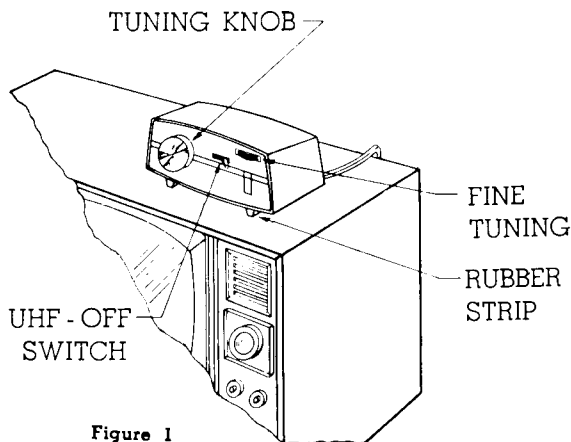

Figure 1
1. Slide the two rubber extrusions over the feet of the cabinet starting from the back. Now your converter can be placed in any convenient location on or near your TV set. Figure 1 shows a typical placement of the BTX-11A on a TV set.